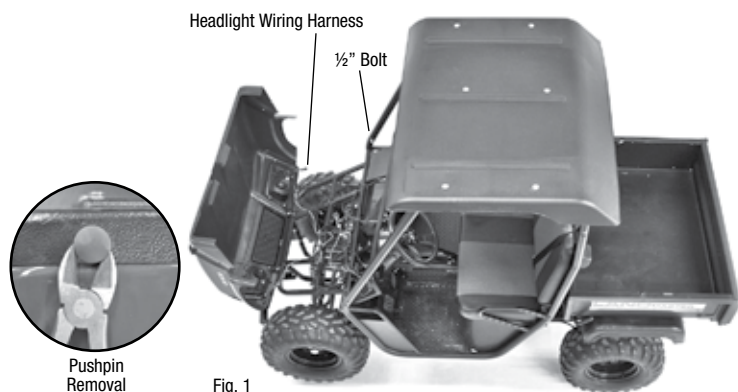
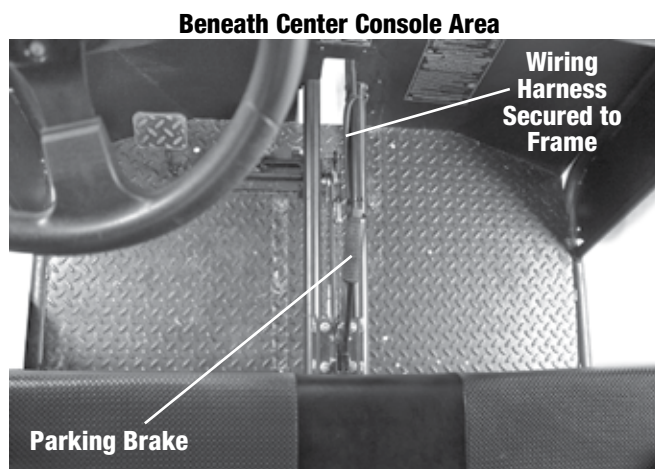

Fig. 1
Fig. 2
- To facilitate the installation of the under hood components of this kit, it is recommended that you remove the pushpins that hold the hood to the dash, the 1/2" bolts that hold the hood to the brush bars and lift up as shown in figure 1 (**NOTE: Unplug the headlight wiring harnesses before lifting up hood**). To remove the pushpins it is necessary to cut the tops off using a pair of wire snips as shown below. It is also recommended that the center console be removed to run the wiring to the rear lights and be kept safely out of the way as shown in figure 2.